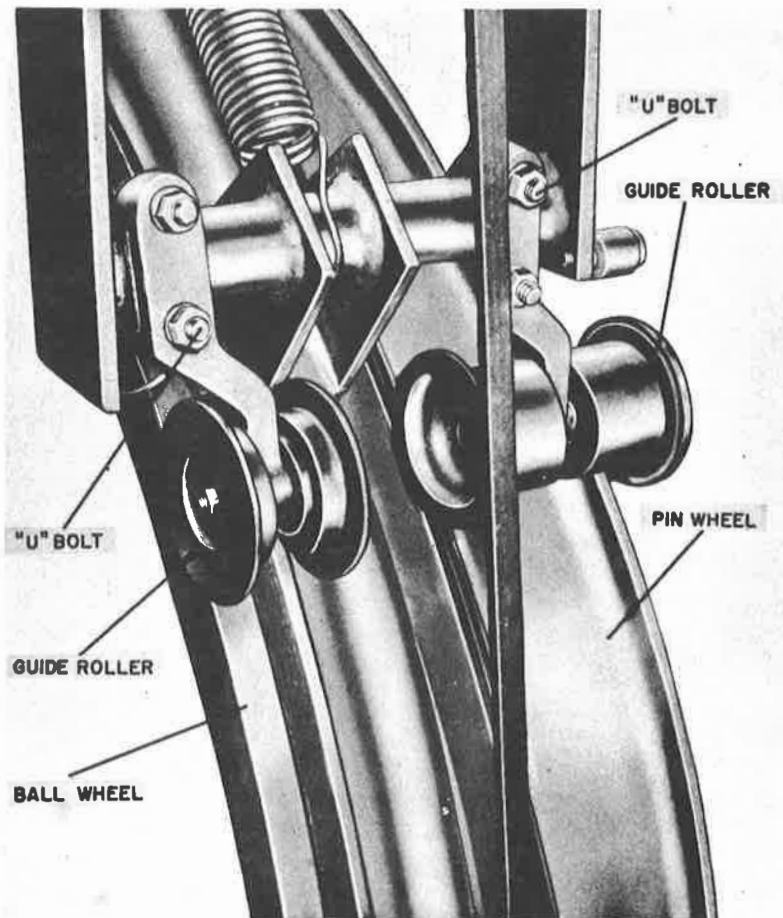

Figure 80. Elevator Guide Rollers
25. BALL WHEEL AND PIN WHEEL GUIDE ROLLER ADJUSTMENT. (FIGURE 80)